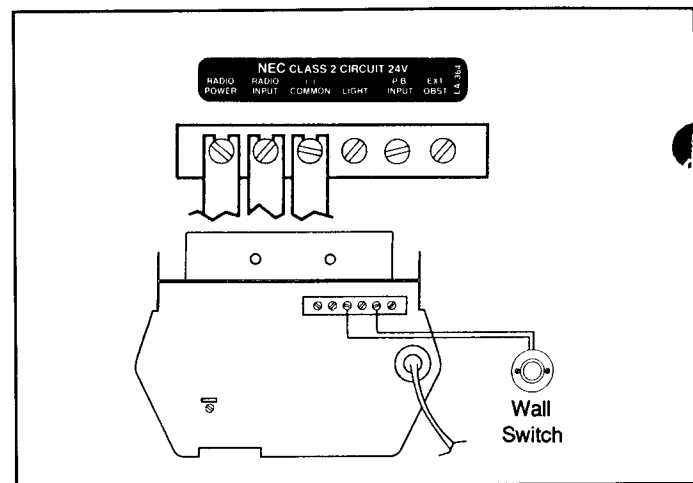

Figure 12
Step 28: Cut off excess wire at the power head, strip wire ends and attach one wire to terminal marked, "P.B." Attach the other wire to terminal marked, "Common" (see Figure 12).